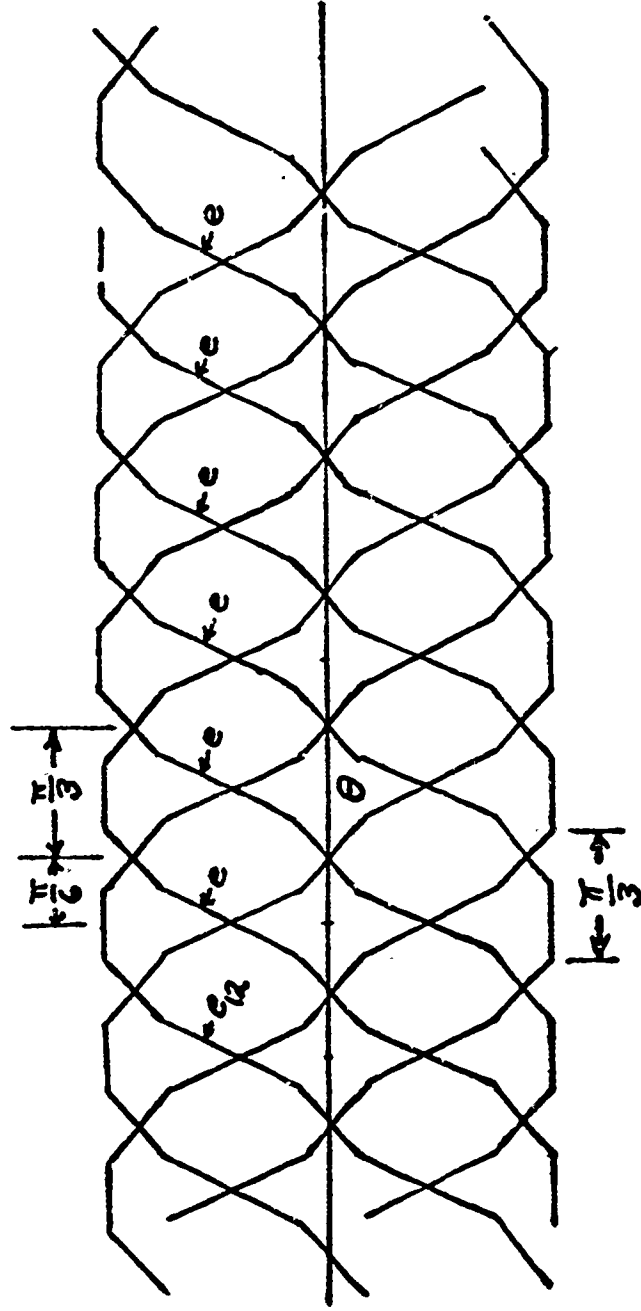

Figure 53.
A set of 6 waves like  $e_{12}$ , with the above phase difference between successive waves, is shown in Fig. 53.
- (1) Place the proper subscripts on each of the unlabeled e symbols in Fig. 53.
- (2) Using the results arrived at on p. 125, trace out on Fig. 53 the wave of  $v$  (the open circuit voltage defined in Fig. 51).